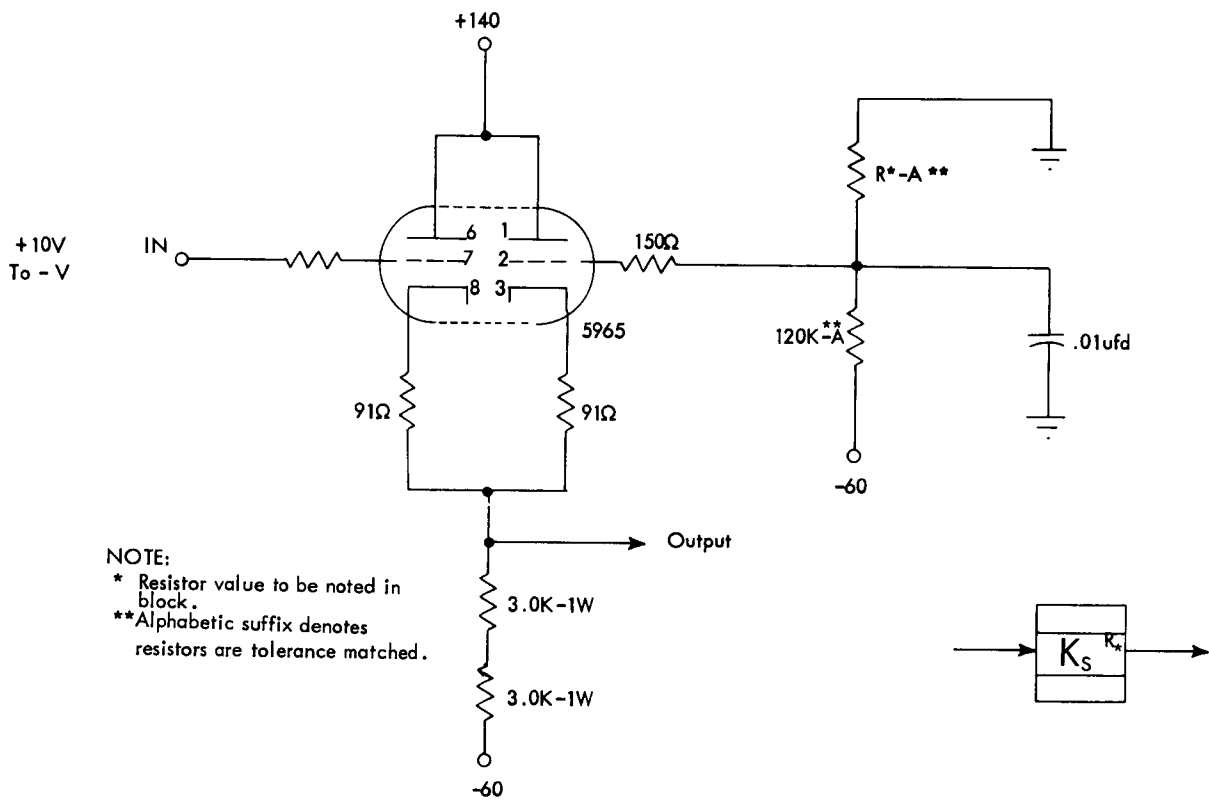

FIGURE C57. RESISTANCE GATED DIODE DRIVER -- K_S
The resistance gated diode driver (K_S) (Figure C57) is used to drive one or more diode gates (D_G) directly, or to drive cathode followers (K), which in turn drive diode gates. The value of the resistor R in the right grid bias circuit is determined by the output voltage desired. This value is chosen so that the right grid bias is slightly negative with respect to the desired low-level output voltage. When the incoming signal is +10 volts, the left tube conducts and the right tube is cut off. The output is